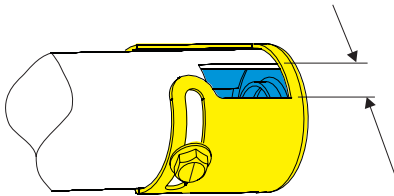

Figure 6
8. Set the air shutter opening by loosening the shutter screw with the phillips screw driver. Rotate the shutter to the desired opening (**See Figure 6**) and tighten the shutter screw. Verify the opening measurement.